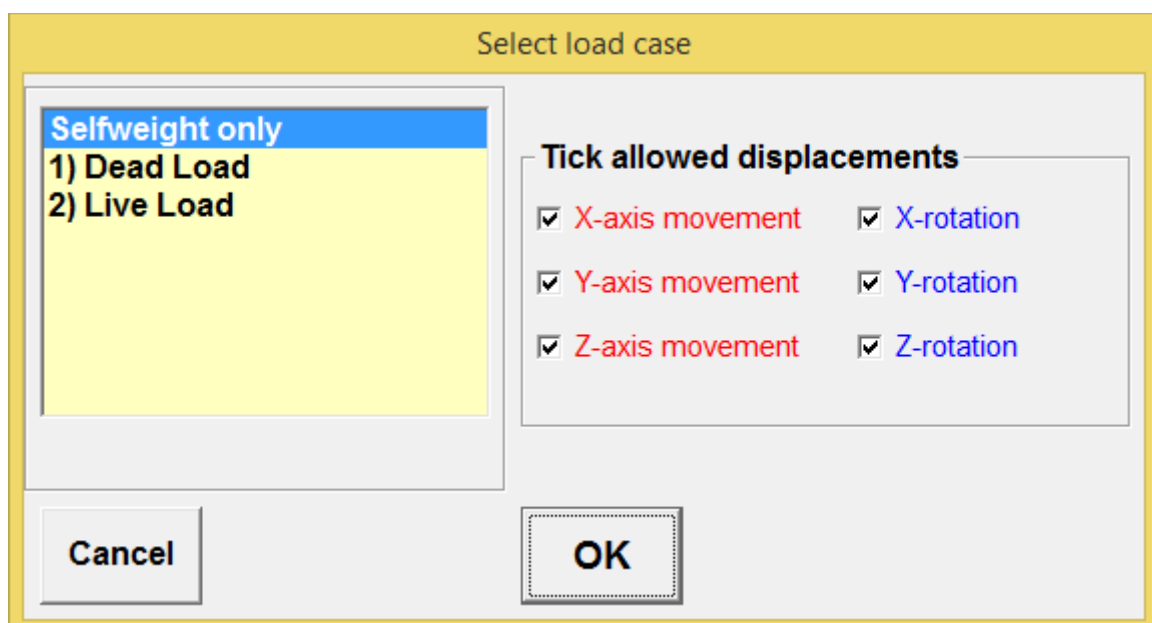

Figure 82
**Step 1:** Go to menu 'Run' and select 'Frequency analysis'. Figure 82 Will then appear.